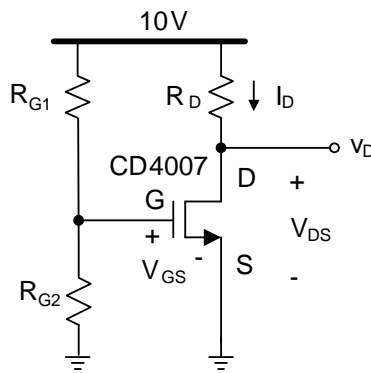

Fig. 2. MOS transistor circuit
1. For the circuit in Fig. 2, use the parameters you extracted from the previous lab for the CD4007 and calculate all resistor values and voltages so that $I_D = 1 \text{ mA}$ and $V_D = 5 \text{ V}$.
4. Construct the circuit in Fig. 2 in PSpice and find the small signal parameters r_o and g_m . Compare PSpice results and calculations. Explain any differences.
1. Connect the circuit in Fig. 2 using the resistor values you calculated in the pre lab.